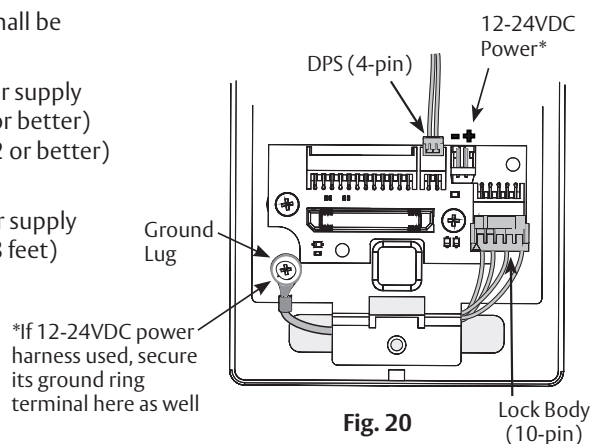

Fig. 20
h. Secure the following connectors to their respective terminals (Figure 20):